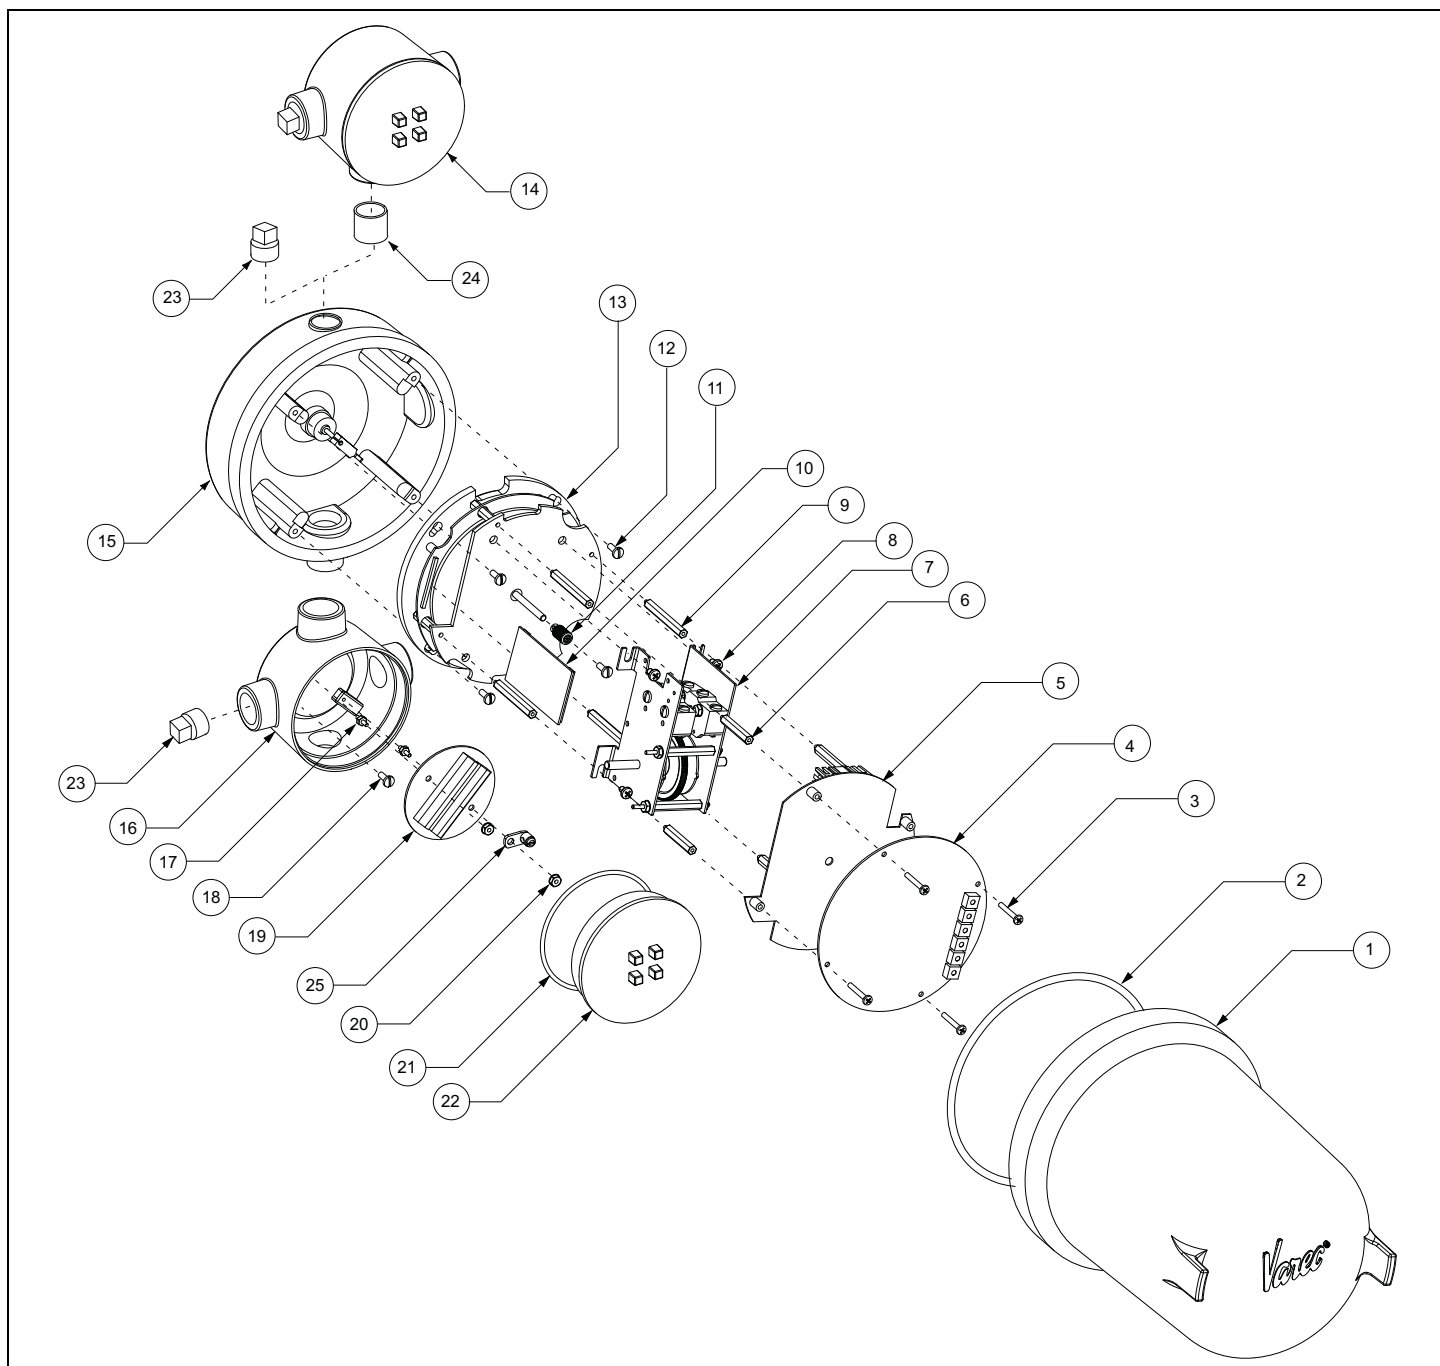

Figure 9-7: 2900 FTT Exploded Parts Diagram
2. Insert the EPROM module into the EPROM socket (U2), shown in Figure 9-7.